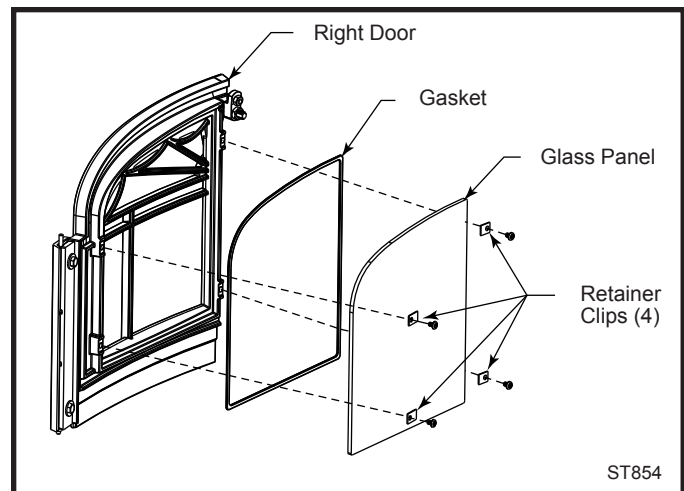

Fig. 42 Exploded view of the glass assembly for the right door.
2. Secure the glass on both doors with the retainer clips. Tighten all screws. (Fig. 42)